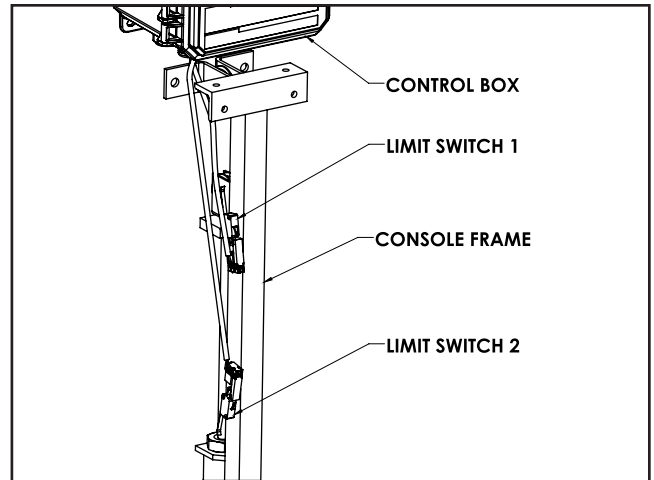

Figure 5-4-23 Connecting limit switches
Connect the (2) three-wire electrical cables from the control box to the limit switches located on the console frame. See Figure 5-4-23.